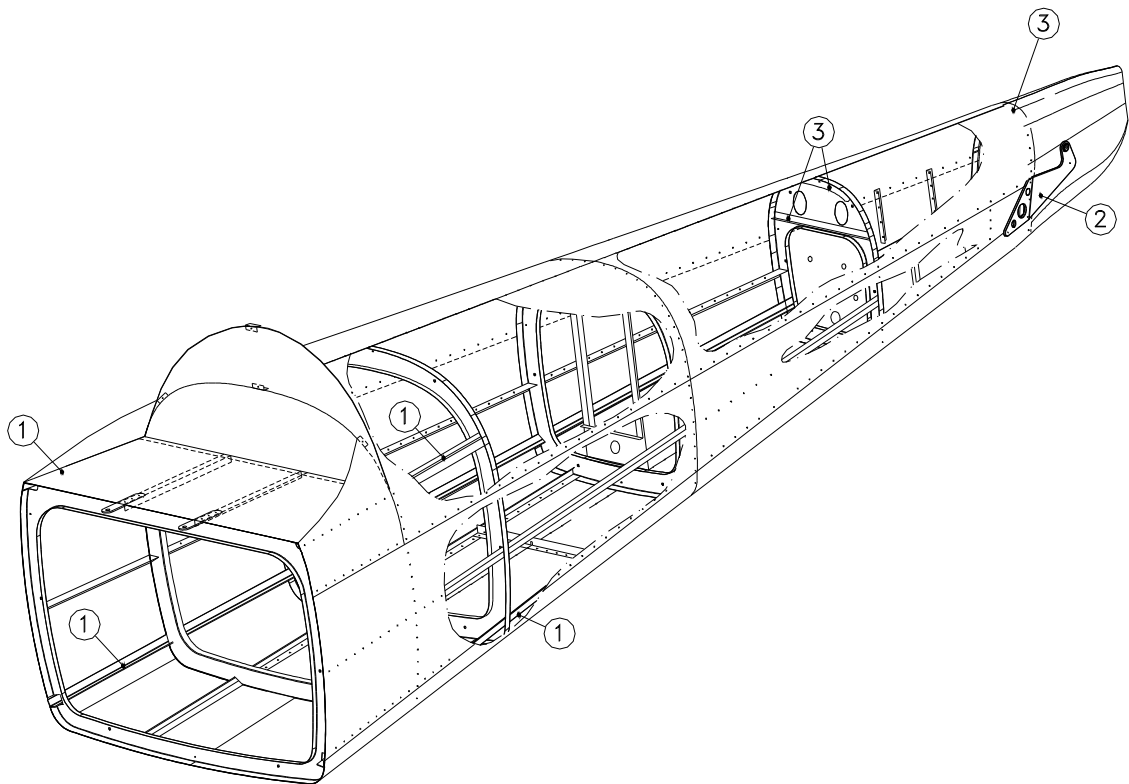

FIGURE C-12 *TAIL CONE*
The aft part of the fuselage (fig. C-12) is constructed of an aluminium alloy semi-monocoque structure. Attachments to cabin truss is at the forward fittings of four stringers (1). Two flanges are located at the aft end of the tail section to support the horizontal tail assy (2) and the vertical tail forward and aft spars (3).
- E. Remove bolt (part.8 fig. C-12) connection between inboard end of spring-leaf and the inboard keelson;